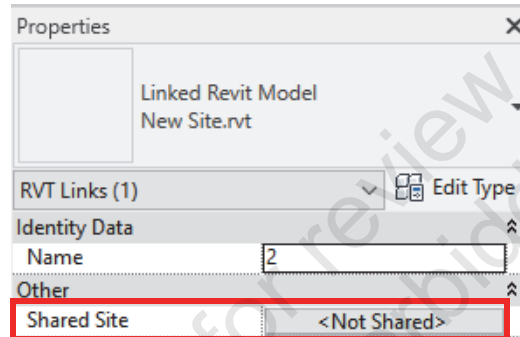

Figure 1–37
3. In the Share Coordinates dialog box, select the **Acquire** option and click **Reconcile**, as shown in Figure 1–38.